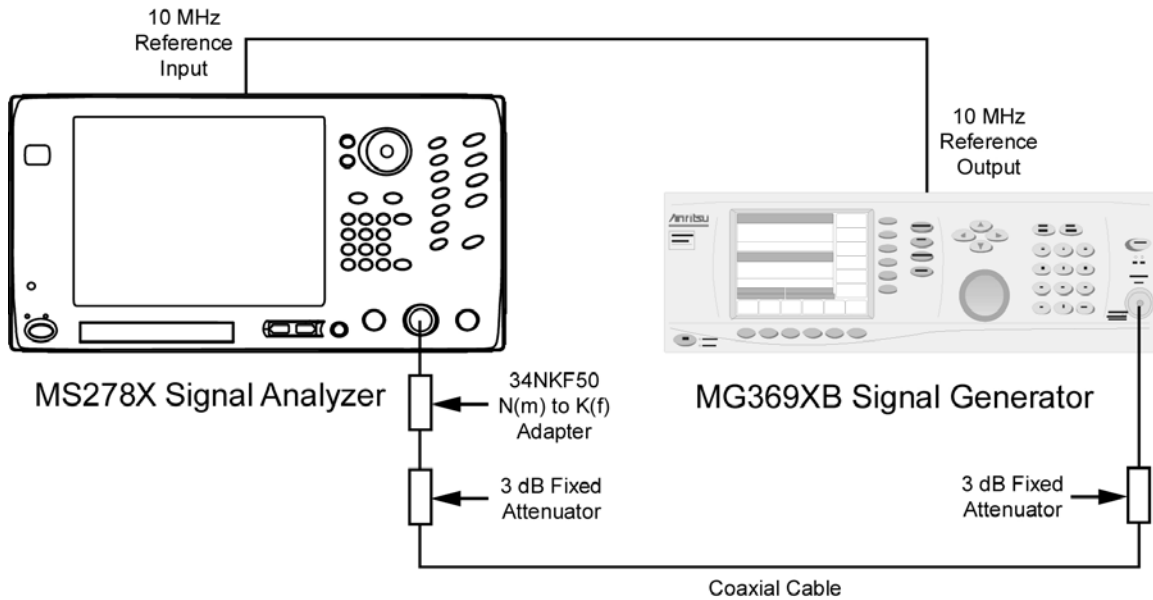

Figure 5-51. Equipment Setup for Swept Resolution Bandwidth Test
1. Set up the instruments as shown in Figure 5-51.